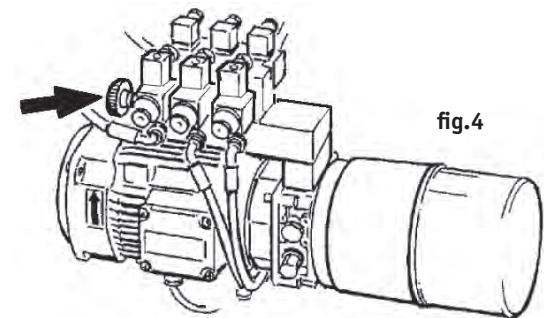

fig.4
**CENTRALINA IDRAULICA (Fig.4)**
**HYDRAULIC UNIT (Fig.4)**
**COFFRE HYDRAULIQUE (fig.4)**
**HYDRAULIKZENTRALE (Abb.4)**
**CENTRAL IDRAULICA (fig.4)**